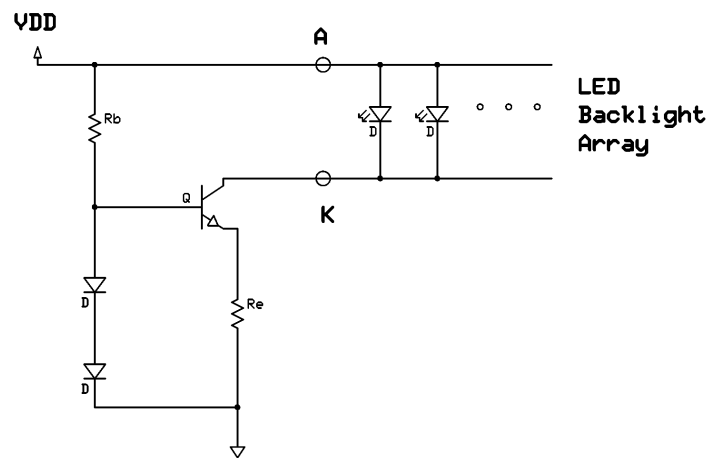

Figure 1: Basic Circuit
Figure 1 shows the basic constant current circuit. Here's how it works: "A" and "K" are the external connections to the LCD module's LED backlight terminals. Depending on the manufacturer, these backlight connections may be part of the module's main data line connector, CN1, or they may be separate contacts on the PC board, usually solder pads.
2. This circuit will deliver a constant 100 mA with the resistor values shown, calculated from Figure 1 discussion above.